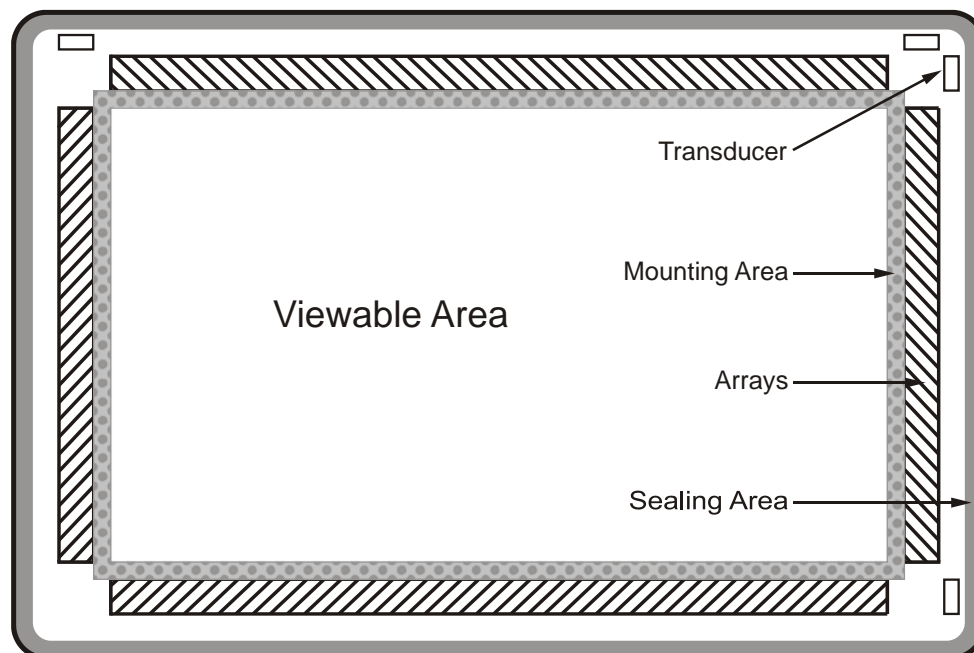

Figure 2-1. Important regions of the IntelliTouch® ZB screen
- **ACTIVE AREA (AA):** The area of a screen which is responsive to touch.
- **ARRAYS:** Acoustically reflecting line segments that act as beam splitters and deflect surface acoustic waves into or out of the active area. The location of these arrays can be seen in Figure 2-1.
- **MOUNTING TAPE:** Double-sided tape used to attach the touchscreen to a surface. The mounting area of the tape is shown in Figure 2-1.
- **SEALING FOAM:** Foam applied around the edges of the touchscreen to keep spills or dust build-up from affecting the reflector arrays. The foam must be adhered to the rear housing or sub-bezel, not to the touchscreen. The allowable sealing area is shown in Figure 2-1.
- **VHB:** 3M® Very High Bonding pressure-sensitive adhesive (or equivalent). Touchscreen is delivered with tape attached in the Mounting Area as shown in Figure 2-1.